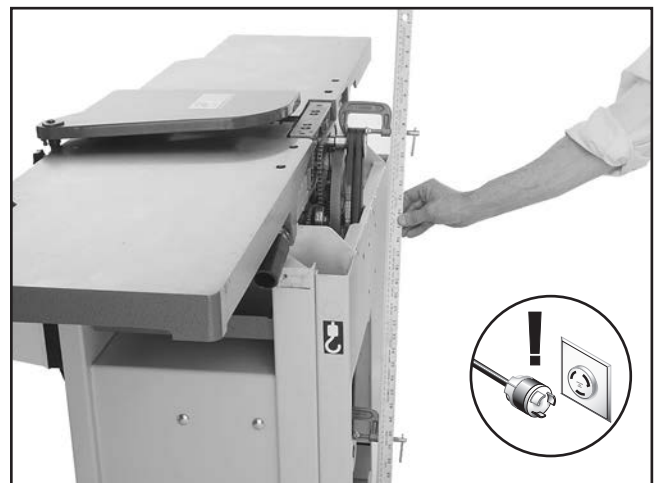

Figure 68. Checking belt alignment.
Proper pulley alignment (see **Figure 68**) prevents premature belt wear. The pulleys are properly aligned when they are parallel and in the same plane as each other.
2. Place a 2" C-clamp on each pulley so the adjustment shaft faces out, place a straight-edge on the clamps, as shown in **Figure 68**, and visually check pulley alignment.